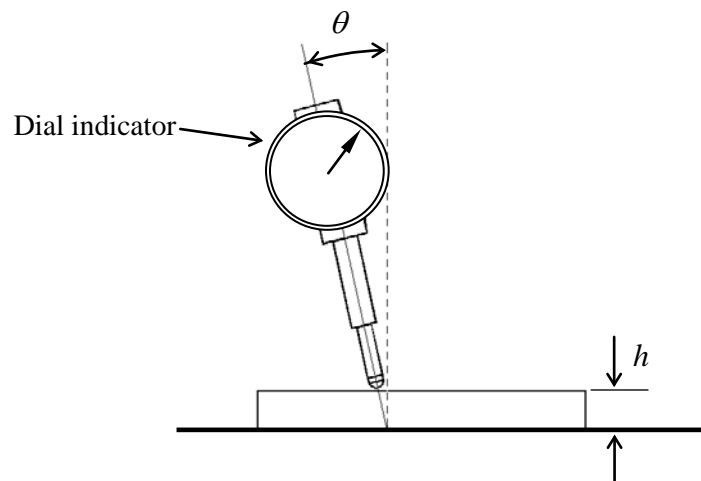

Figure Q1[d]
- [d] Figure Q1[d] shows a dial indicator used for measuring the height h of a gage block. The reading shown by the indicator is 22.520 mm. If the true height of the gage block is 22.500 mm, determine the tilt angle θ of the dial indicator.